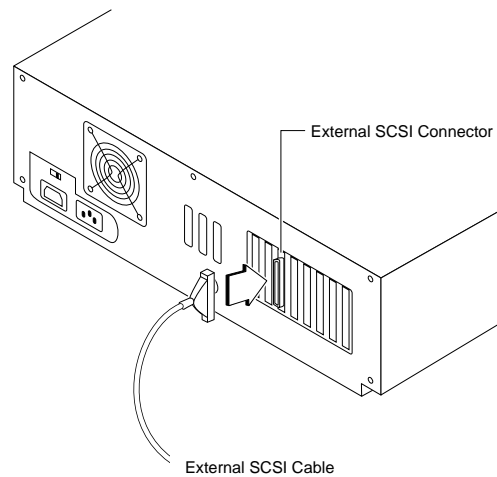

Figure 5-7. External Cable to AHA-398x
- 1 Attach one connector of the external SCSI cable to the external SCSI connector, as shown in Figure 5-7. External cable connectors can be plugged in only one way; pin-1 orientation is automatic.